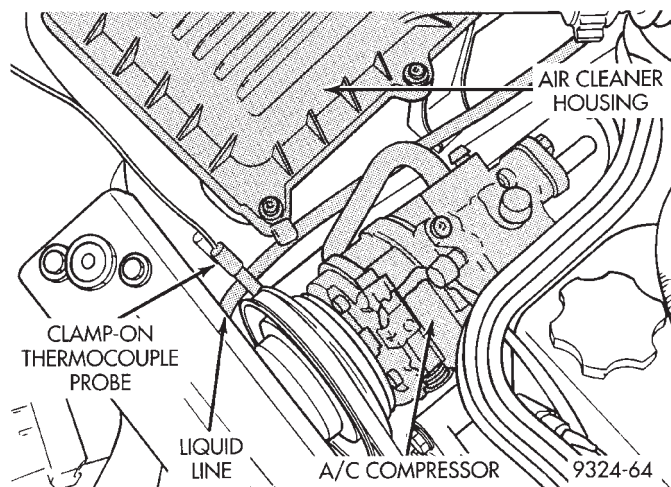

**Fig. 17 Thermocouple Attachment Point**
- With a scan tool (DRB) and a thermocouple (Fig. 17). Use the scan tool (DRB) diagnostic topic: Partial Charge Test. Refer to the proper Body Diagnostic Manual.
(1) Establish your preferred method of measuring compressor discharge pressure. Use a manifold gauge set or a scan tool.
(2) Attach a clamp-on thermocouple (P.S.E. 66-324-0014 or 80PK-1A) or equivalent to the liquid line (Fig. 17). It must be placed as close to the condenser outlet as possible to observe liquid line temperature. Refer to "Thermocouple Probe" in this section for more information on probe.
(3) The vehicle must be in the following modes: